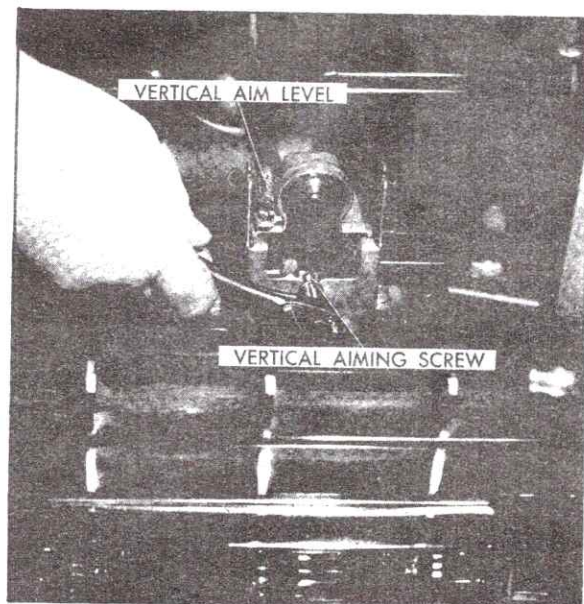

Fig. 15-35 Vertical Aim Adjustment
5. Adjust vertical aiming screw on phototube unit until bubble is centered in level, Fig. 15-35.